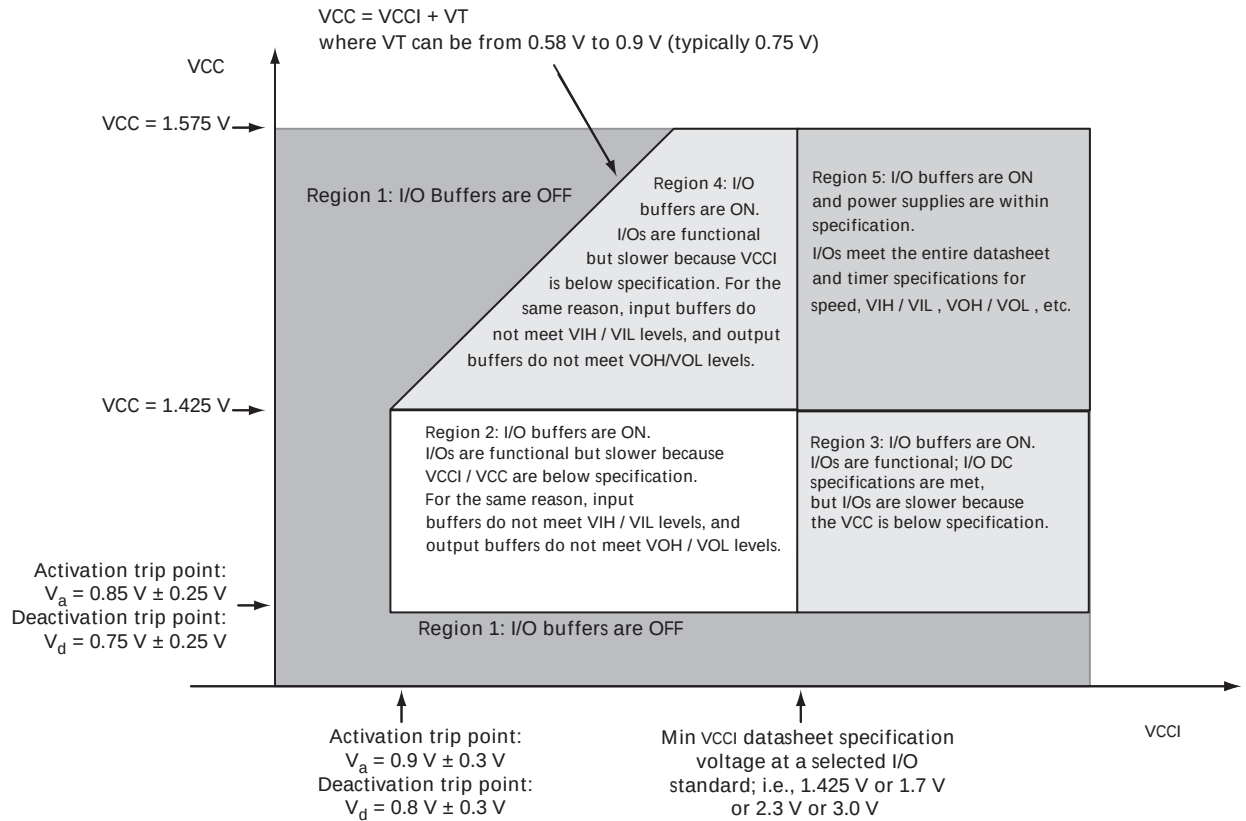

Figure 2-1 • I/O State as a Function of VCCI and VCC Voltage Levels
Sophisticated power-up management circuitry is designed into every ProASIC®3 device. These circuits ensure easy transition from the powered-off state to the powered-up state of the device. The many different supplies can power up in any sequence with minimized current spikes or surges. In addition, the I/O will be in a known state through the power-up sequence. The basic principle is shown in Figure 2-1 on page 2-4.
1. VCC and VCCI are above the minimum specified trip points (Figure 2-1 on page 2-4).
Microsemi recommends using monotonic power supplies or voltage regulators to ensure proper power-up behavior. Power ramp-up should be monotonic at least until VCC and VCCPLLX exceed brownout activation levels. The VCC activation level is specified as 1.1 V worst-case (see Figure 2-1 on page 2-4 for more details).